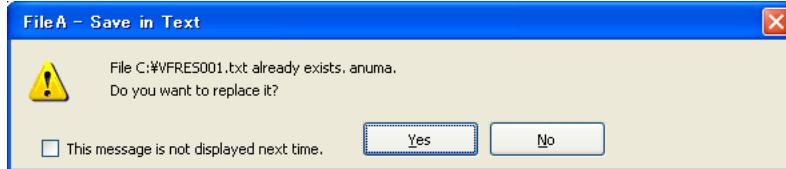

Fig. 5-32 PDF overwrite message
- 8 If a printed report already exists, the dialog box shown in Fig. 5-32 opens. If you want to overwrite the report PDF, click the **Yes** button. Otherwise, click **No** to quit the report printing.